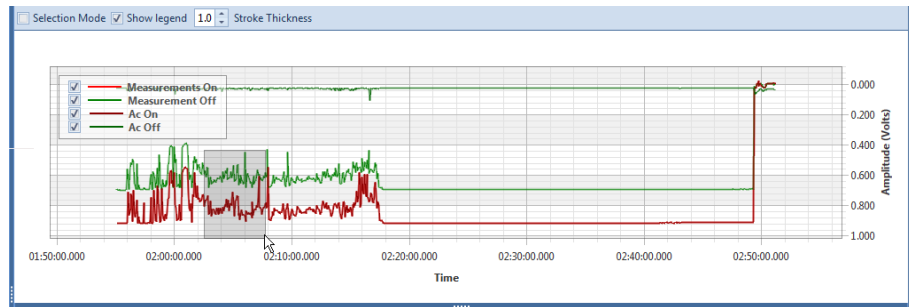

Figure 14-7. Zoom In On Graph
- **Zoom In:** If the *Selection Mode* check box includes a check mark, click the check box to clear the check mark. Then click and hold the mouse while dragging a selection over the graph to zoom in on the selected area of the graph. Double-click anywhere inside the graph to return to normal graph view (Figure 14-7).